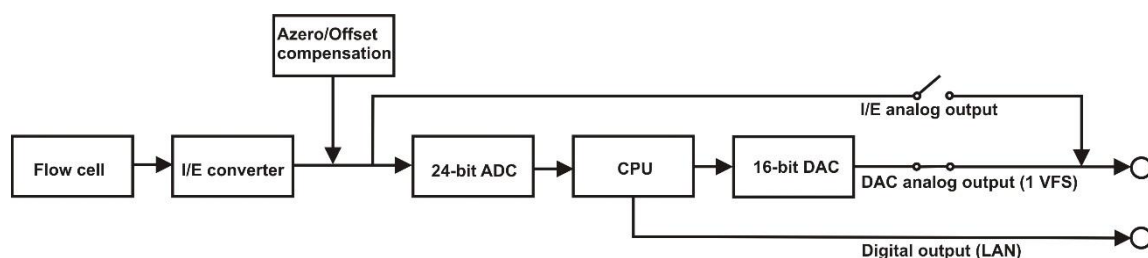

Fig. 11. DECADE (E)lite signal processing from electrochemical flow cell to output.
At the working electrode (WE) in the electrochemical flow cell the electron transfer takes place due to an oxidation or reduction reaction. The resulting electrical current is amplified by the current-potential (I/E) converter (Fig. 11).